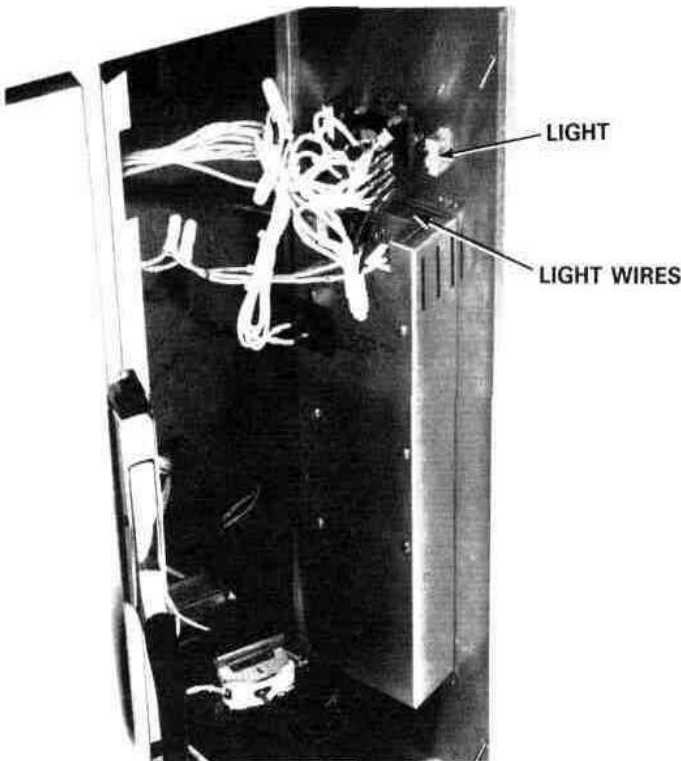

Figure 19
- 3. Disconnect the wires from the rear of the light(s). (See Figure 19)
- 4. Using the needle nose pliers, squeeze the 2 ears on the plastic body of the light and push it out of the control panel. (See Figure 19)